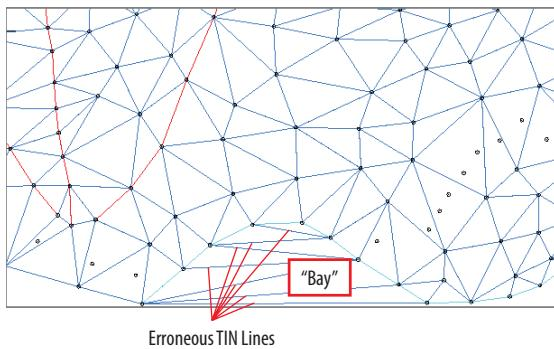

FIGURE 4.11 Erroneous TIN lines created across a bay in the surface data
As discussed earlier, boundaries are a way of defining where the surface is and where it isn't. In the example project, you don't want the surface to exist outside the area that has been surveyed. Why would the surface extend beyond the survey data? If the edge of an area represented by the points happens to bend inward, the lines will extend across the "bay" (see Figure 4.11) and will create misrepresented surface data in that area. One way to avoid or correct this situation is to provide an *outer boundary* that prevents the surface from existing in these areas.
4. In the left viewport, zoom in to the southern edge of the surface, and note the TIN lines that extend across the bend in the stream (shown previously in Figure 4.11).
5. Select one of the TIN lines, and then click **Edit Surface > Delete Line** on the ribbon. Select the erroneous lines as indicated previously in Figure 4.11. Press Enter after you've made your selection.